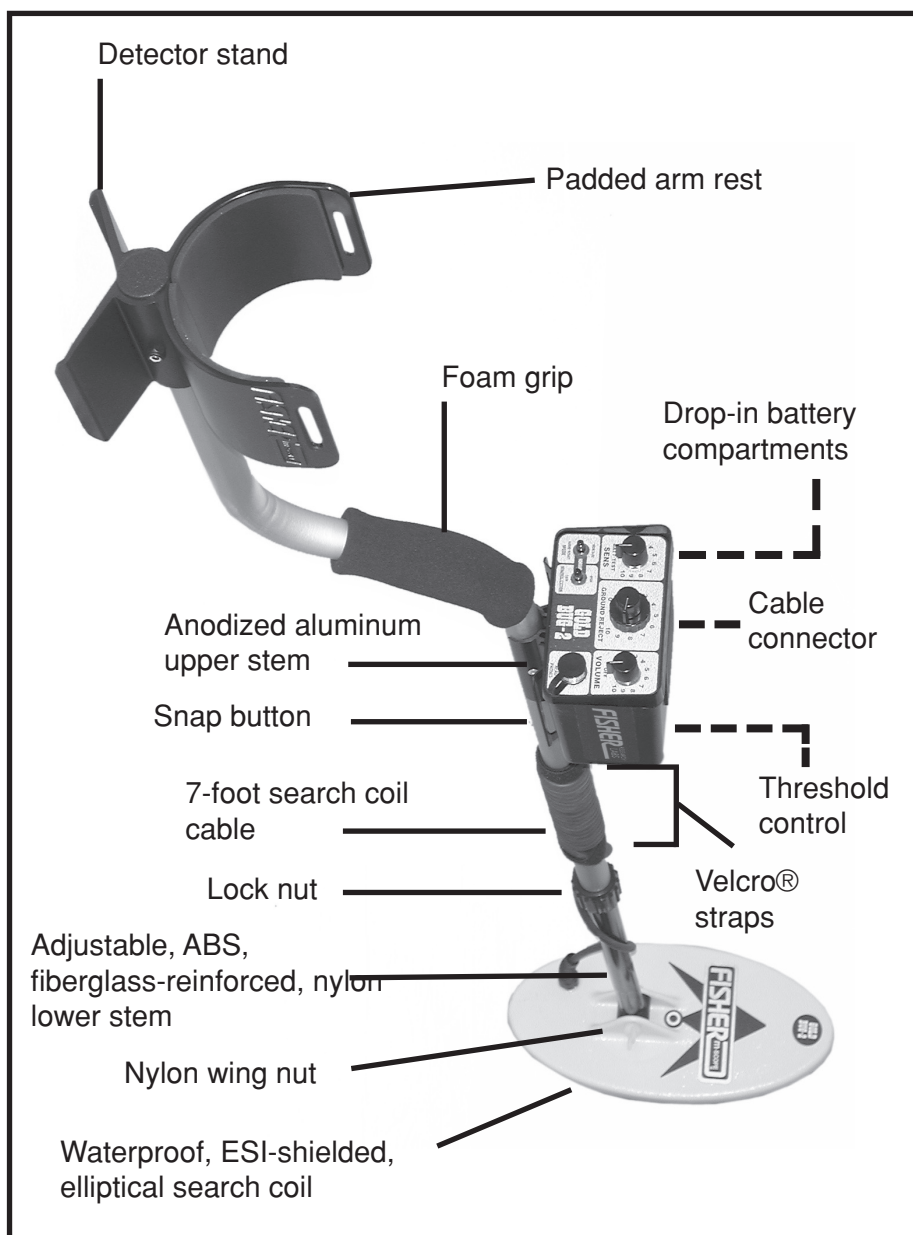

Figure 1. Gold bug-2
2. Slip the lower stem into the upper stem (see pg. 5 Figure 1).